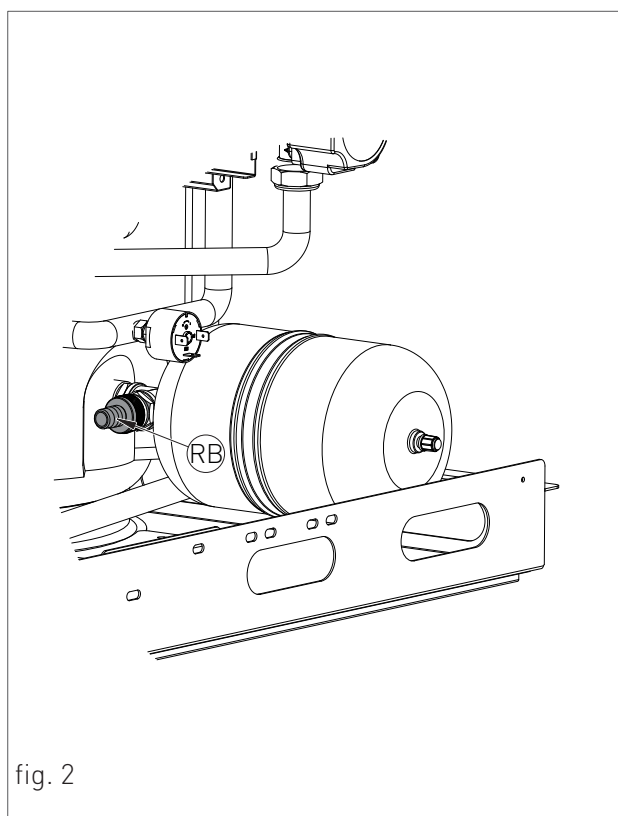

fig. 2
- › after completing all operations, close the cylinder draining tap ‘RB’ (fig.2) and all previously opened water taps.